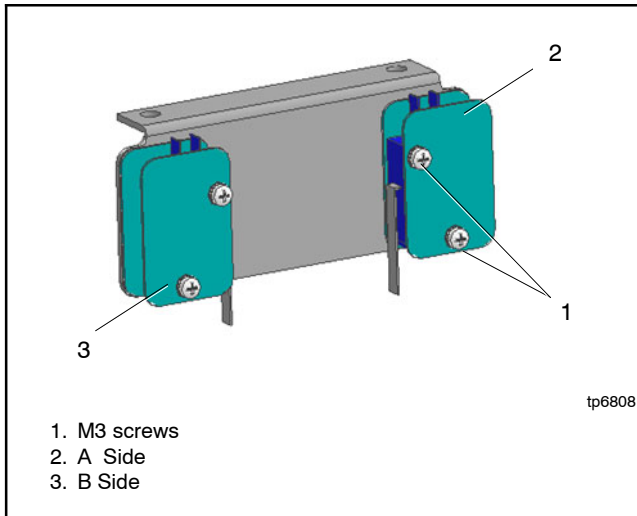
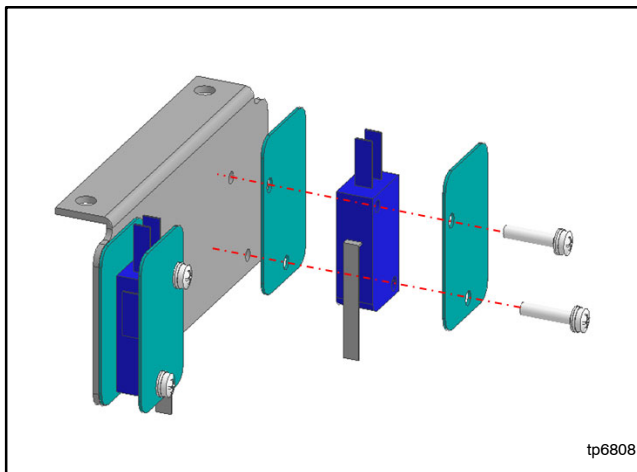

Figure 7-79 Microswitch Screws
Figure 7-80 Microswitch and Separators
3. Remove two M3 screws to remove the microswitch and separators. See Figure 7-79 and Figure 7-80.